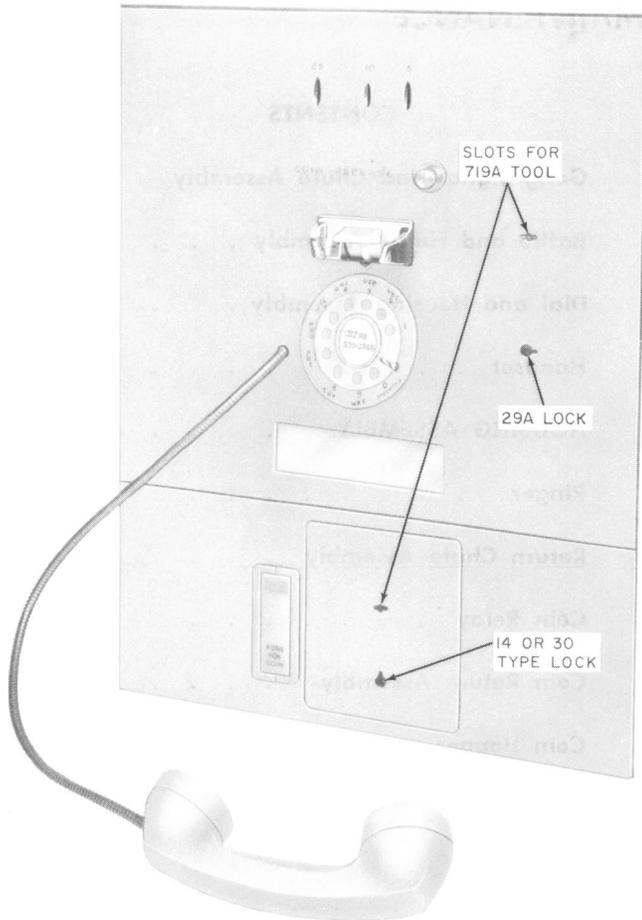
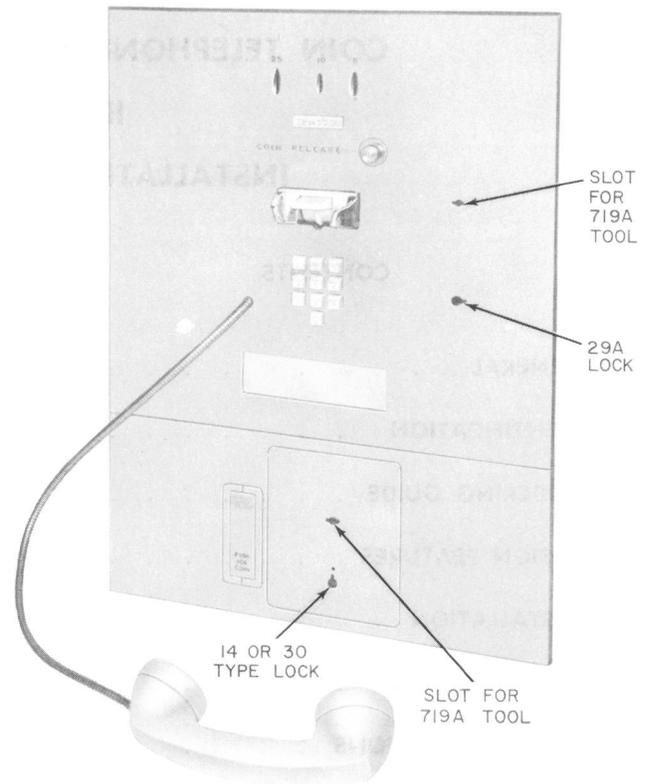

Fig. 1—235-Type Coin Telephone
Fig. 2—1235-Type Coin Telephone
1.03 The 235 coin telephone (Fig. 1) and the 1235 coin telephone (Fig. 2) are similar except that the 235 has a rotary dial while the 1235 has a 10-button TOUCH-TONE® dial.